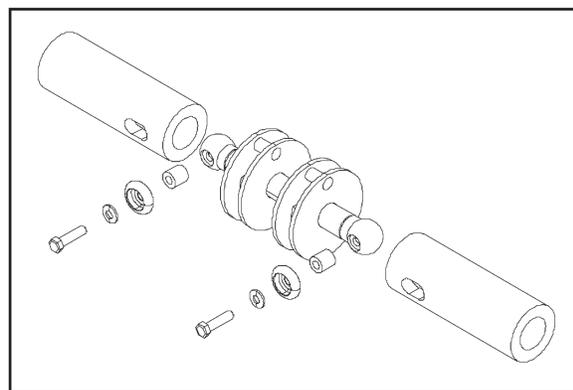

Figure 11.
4. Install the operating shaft between the first and second decks as follows (Figure 11):